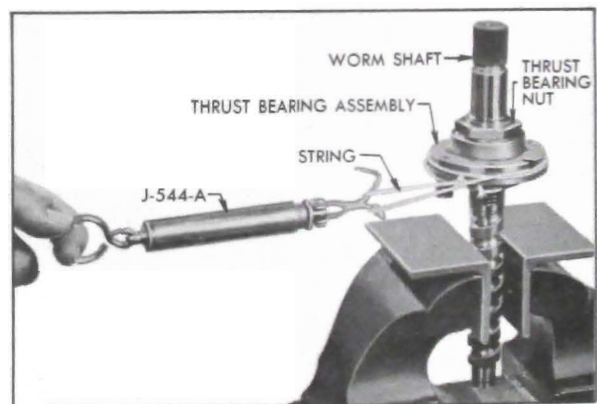

Figure 8-27—Checking Thrust Bearing Preload
6. Check for roughness by holding the worm stationary and rotating the center race. If the bearing is rough, replace thrust bearing assembly. Check the thrust bearing preload. This should be between $\frac{3}{4}$ and 3 lbs. measured at the outer edge of the center bearing. To measure bearing preload, clamp the worm in a vise using soft jaws. Fasten a cord to one of the riveted centering springs and wind it around the center race. Attach the other end of the cord to Spring Scale J-544-A. Then slowly pull the other end of the scale and check the reading. If the preload is not within the limits, push the staked portion of the thrust bearing nut up out of the thread groove, being careful not to damage the thread, and remove the nut and discard. Use a new nut and adjust as necessary to obtain proper preload. After the proper preload has been obtained recheck bearing for roughness and stake the nut being careful not to move the nut when staking. Recheck the preload after staking. See Figure 8-27.